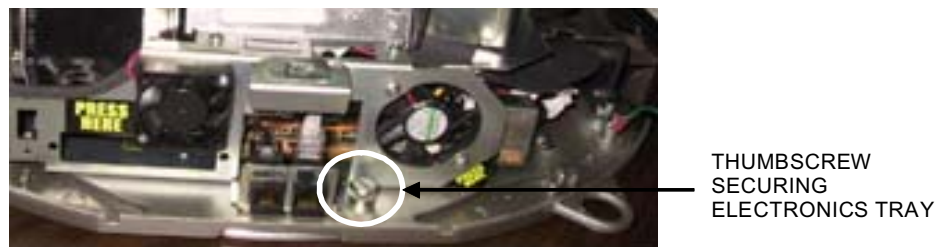

FIGURE 10 - REAR VIEW OF ELECTRONICS TRAY
12. Loosen the thumbscrew located in the middle of the rear of the electronics tray and slide the tray out of the unit. See Figure 10.
33. Slide the electronics tray into its tracks inside the system (the thumbscrew on the electronics tray should be facing the rear of the system - see Figure 10), then gently push the electronics tray back into place. BE CERTAIN that no wires are being crimped or interfered with while doing so.